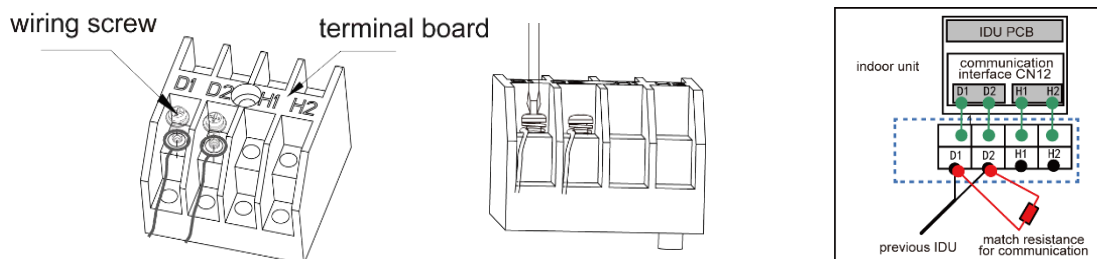

Fig29
3. Connect the communication wire to terminal D1 and D2 of indoor 4-bit wiring board, as shown in Fig29.
1. For more reliable communication, make sure to connect the terminal resistor to the most downstream IDU of the communication bus (terminal D1 and D2), as shown in Fig29 the terminal resistor is provided with each ODU.